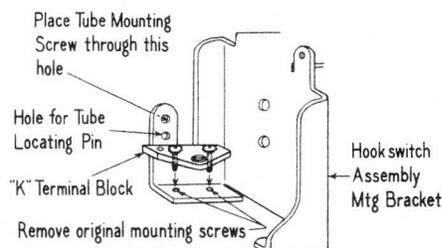

Fig. 12
5.02 Remove the two mounting screws from the hookswitch mounting bracket as indicated in Fig. 12. Position the "K" terminal block on the bracket so that the screw holes in the terminal block line up with those in the bracket and base. Using the two screws supplied in the package assembly, fasten the "K" terminal block and assembly mounting bracket to the base plate.
5.03 With the locating pin on the tube engaging the hole in the bracket - see Fig. 12, secure the tube to the bracket by means of the tube mounting screw placed through the hole indicated in Fig. 12.